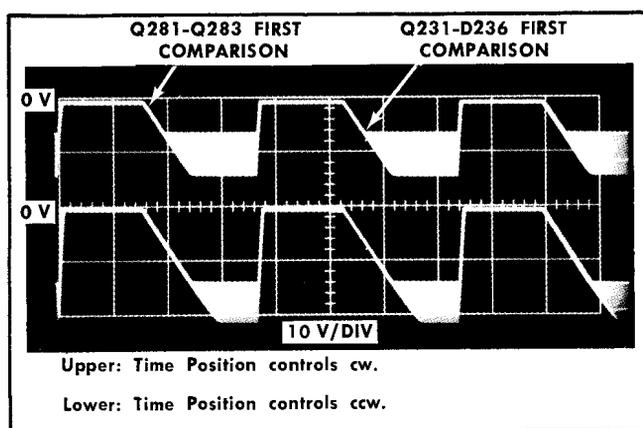

Fig. 4-11. Slewing ramp signal at Q254 collector, D236 anode. (Double exposure.)
Fig. 4-11 shows a double exposure of two slewing ramp waveforms, showing the comparison points for the first sample of a sweep. As shown in the illustration, the Type 3T2 is operating at $1\text{ }\mu\text{s}/\text{DIV}$ ($10\text{ }\mu\text{s}$ RANGE and $\times 1$ TIME MAG-
NIFIER), and the exposures were made first with the TIME POSITION controls fully clockwise then fully counterclockwise. Each exposure is a time exposure of sufficient time to show all the stopped slewing ramp voltage values for one sweep. Comparing Fig. 4-11 with waveform (O) of Fig. 2-7 may aid in understanding the time window movement action caused by rotation of the TIME POSITION control.